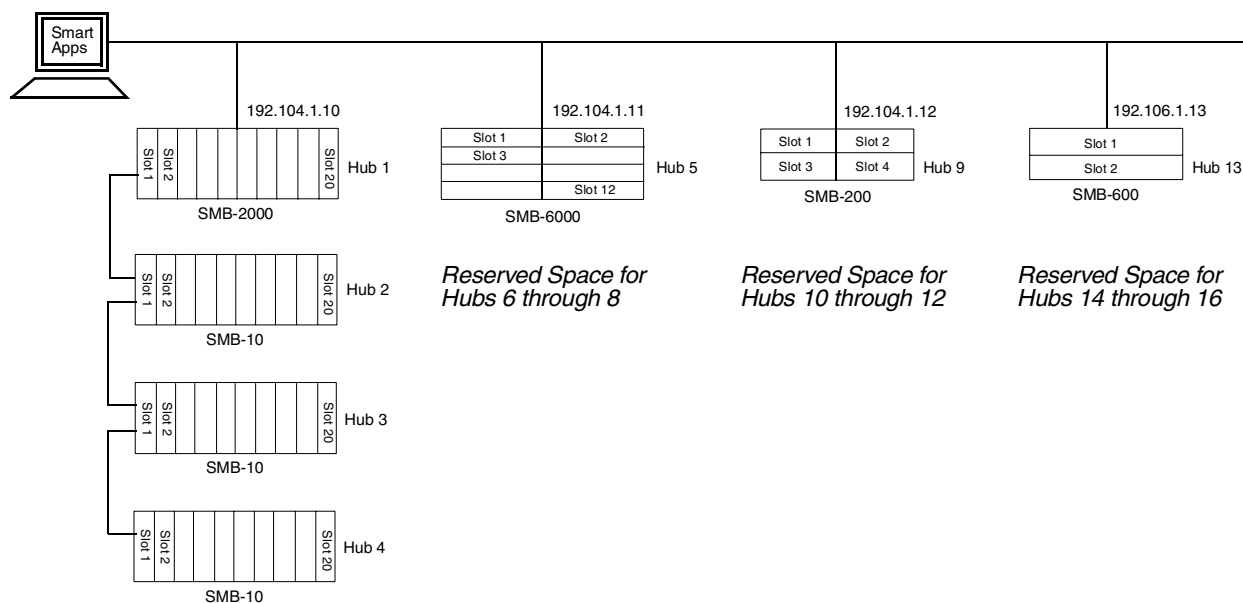

Figure 5-1. Numbering Stacked and Daisy-chained Chassis
You can connect multiple controlling SmartBits chassis by assigning each controlling chassis an IP address, as shown in *Figure 5-1*.
- When you link SmartBits chassis, four real or virtual hubs are allocated to each IP address (for each chassis linked across; see *Figure 5-1*). Space is reserved for these hubs whether or not physical chassis are actually installed with the first (*master*) hub.